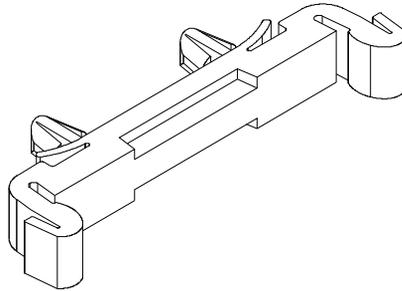

FIG. 7 DIN RAIL MOUNTING FOOT
Step 1. Snap the DIN rail mounting feet into any of the two holes on the front panel of the electronic enclosure. (See Figs. 7 & 8)